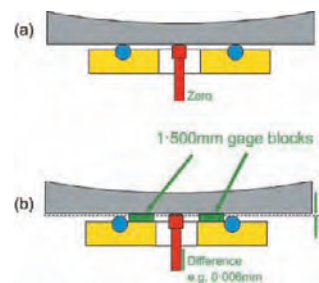

Fig.13. Ball wear test using 1.500mm gage blocks, 'difference' exaggerated for clarity.
The curved side of a standard Check Block can be used as an accurate indicator of ball wear – up to a d -value of 0.37mm (being twice the radius value predicted by equation (5) for the Check Block). An alternative approach is to support the flat side of the check block on a pair of 1.500mm thick gage blocks, one on either side of the dial gage pointer, see fig.13 (b). The gage reading is compared with that without the gage blocks being in position, see fig.13 (a). For the author's TSP-3 Almen gage the difference is currently 0.006mm.